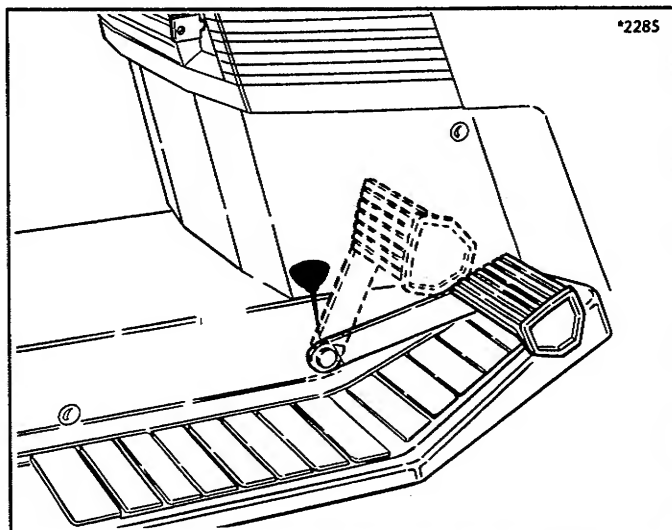

Figure 10. Lubricate Pedal Pivot Point - Hydro Models. (Lubricate clutch pedal on LH side on Gear Models)
1. With an oil can, apply a few drops of oil to points indicated with oil can in figures 10 through 16.